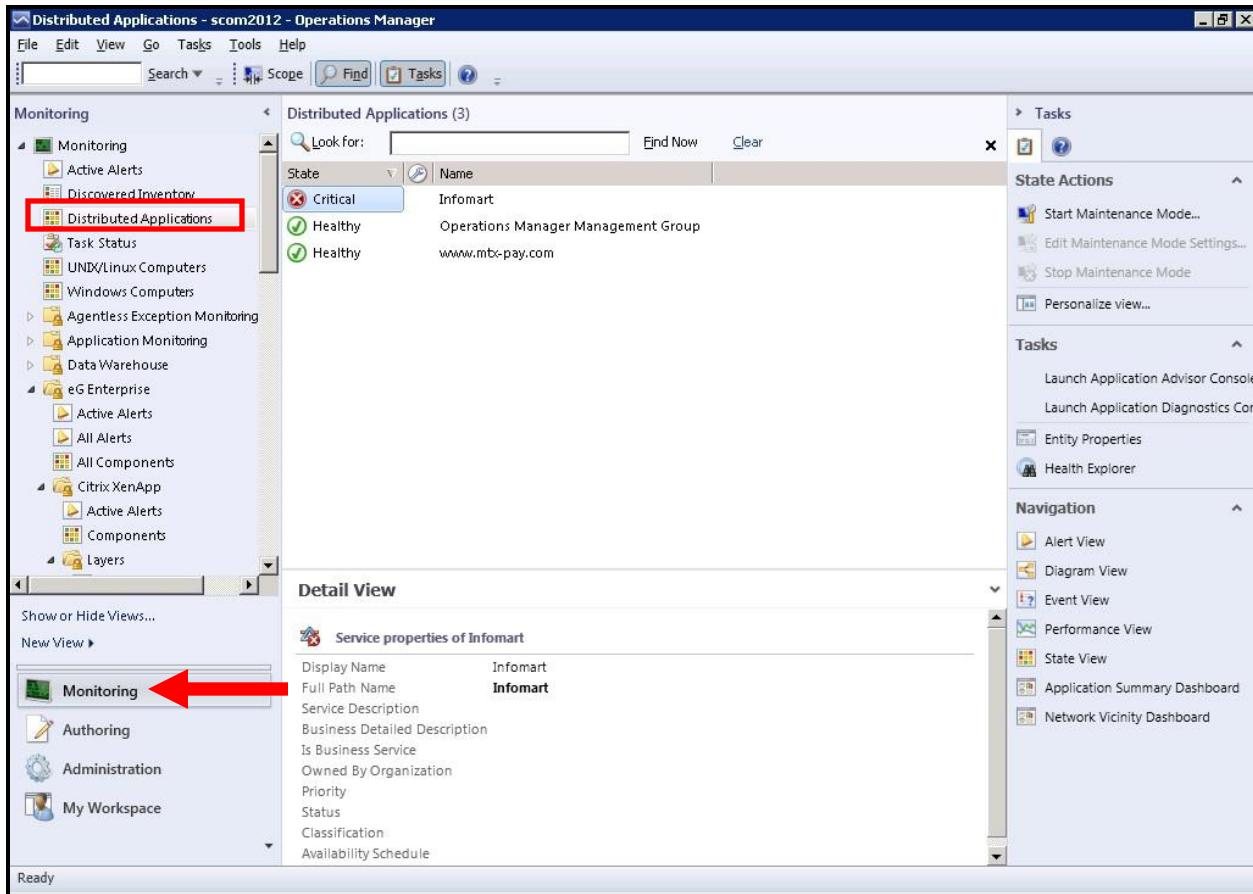
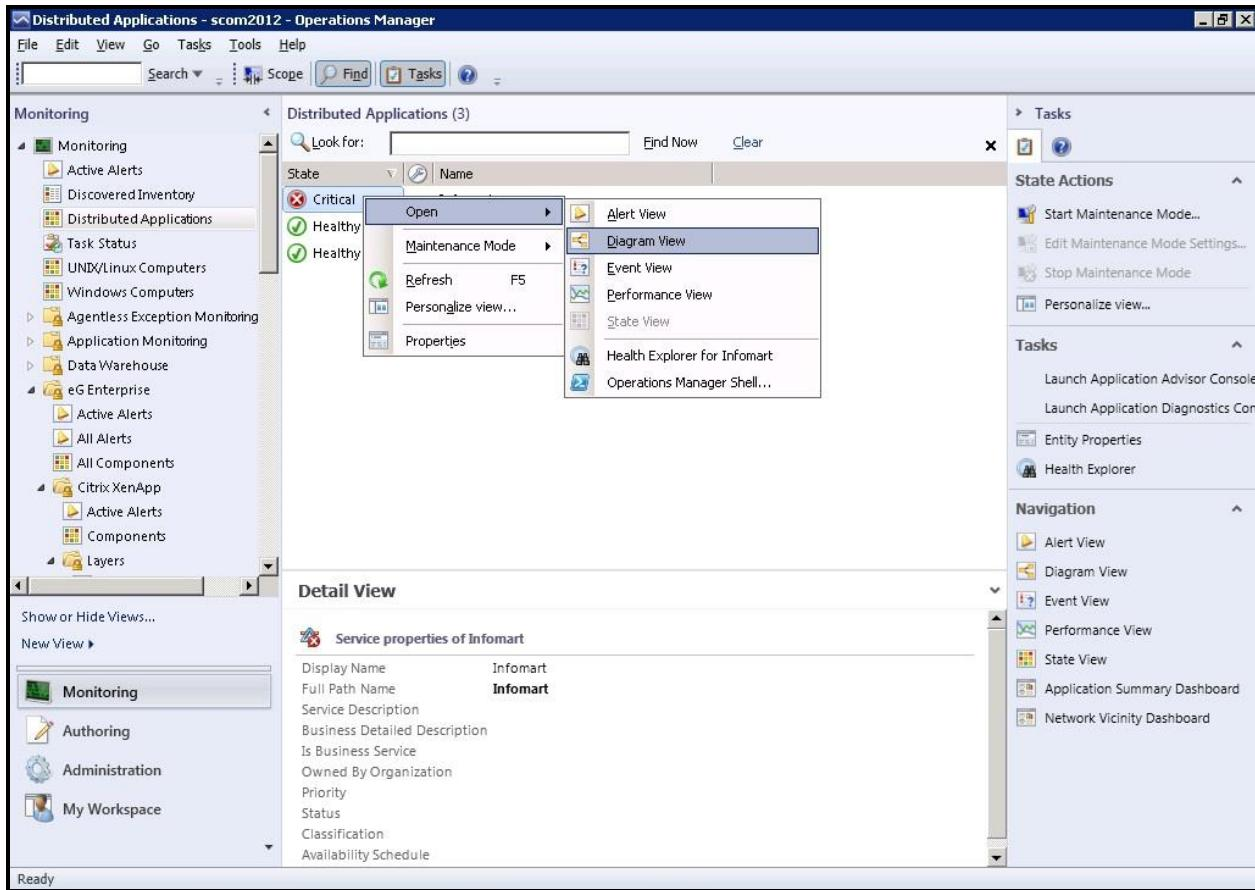

Figure 3.37: Viewing the state of the Infomart distributed application in the Monitoring mode
Figure 3.38: Accessing the topology map of the Infomart application in the Monitoring mode
- With that, the topology of the distributed application has been fully configured. Once eG Enterprise is integrated with SCOM, the SCOM connector updates the state of the distributed application and its member components based on state computations performed in eG. To view the current state of the *Infomart* application, move to the **Monitoring** view, by clicking on the **Monitoring** tab page indicated by Figure 3.37. Then, click on the **Distributed Applications** sub-node in the **Monitoring** tree-structure in the left panel of Figure 3.37.
14. The right panel of Figure 3.37 will then display all the **Distributed Applications** that have been configured and their current state. From Figure 3.37, it is evident that the *Infomart* application is in a **Critical** state. To know which component engaged in the delivery of the *Infomart* application is responsible for this **Critical** problem, view the topology map of the *Infomart* application. For this, right-click on the **State** of that application (which is currently, **Critical**), and follow the menu sequence: Open -> Diagram View (see Figure 3.38).